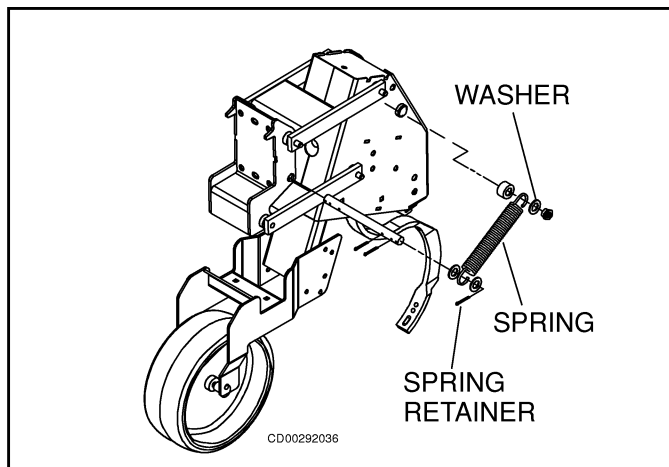

Figure 20 Down Pressure Springs
3. Slide spring into place over spring rod and fasten into place with spring retainers. Use flat washers on each side of spring hook as shown in Figure 20.